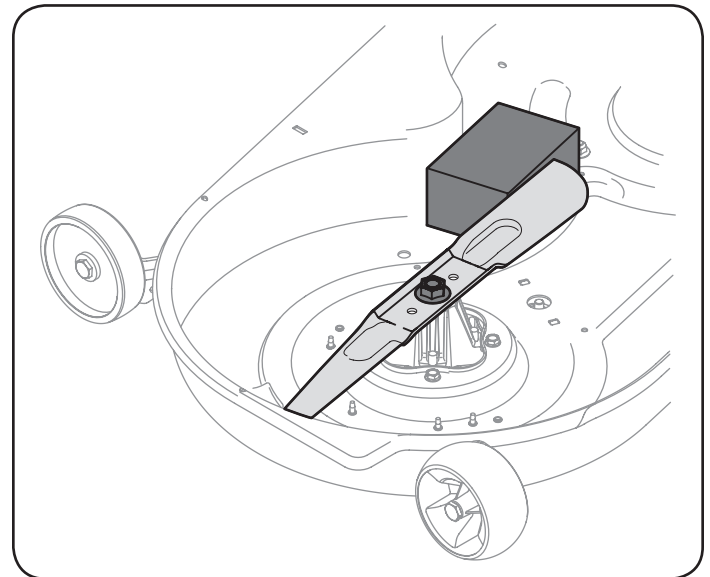

Figure 25
2. Place a block of wood between the deck housing baffle and the cutting blade to act as a stabilizer. See Figure 25.
3. Remove the hex flange nut that secures the blade to the spindle assembly. See Figure 25.